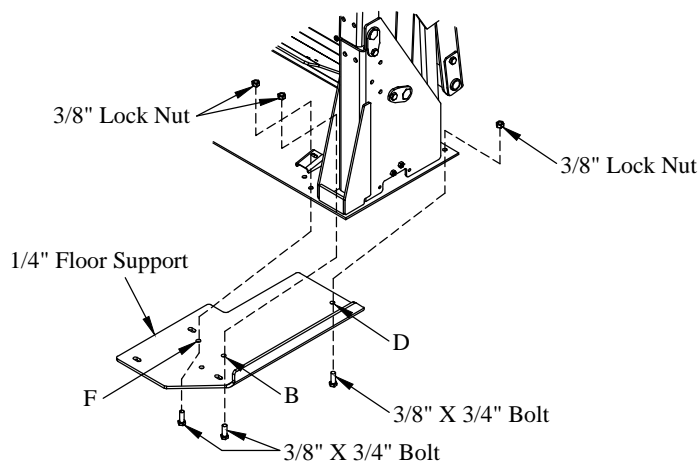

Figure 10: Floor support locations.
5. **Install** the 1/4" floor supports using the supplied 3/8" x 3/4" bolts and lock nuts (Figure 10). Use locations "B", "D", and "F", with the bolt heads on the underside.